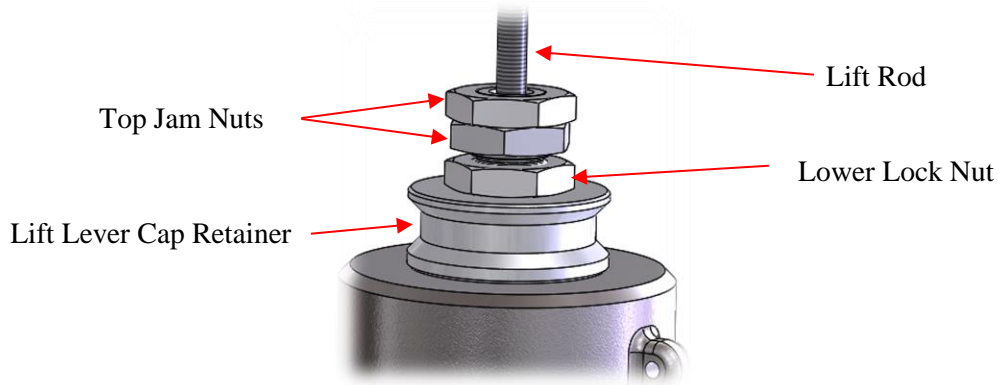
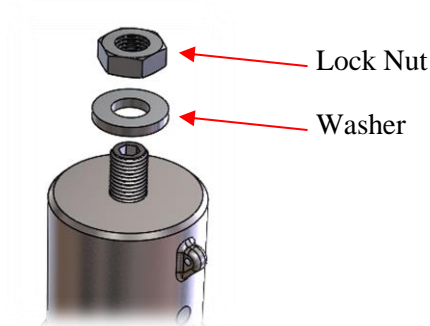

Figure 15: Lift Lever Jam Nuts
Figure 18: Upper Bonnet Components
6. Loosen the lower lock nut from the adjustment screw by applying one wrench on the lower lock nut and another on the top two jam nut. See Figure 15.
8. Remove the lock nut and washer/lift lever cap retainer. See Figure 18/Figure 15.